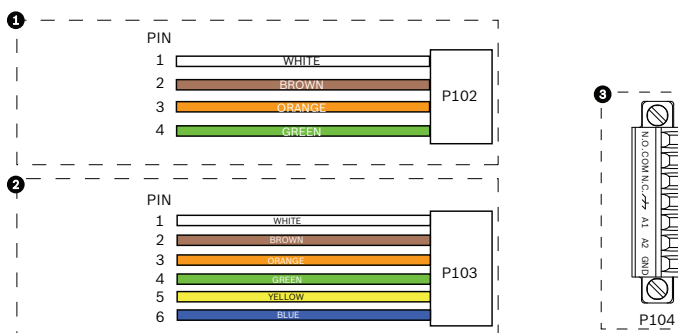

Figure 2.7 Alarm and Relay Connector Plugs
- To connect supervised alarms and relays, attach the appropriate wires to their terminals on the P104 connector on the Pipe Interface Board (see *Figure 2.7*, above). In addition, refer to *Section 4 Alarms and Relay Connections*, page 45 for more details on wiring alarms and relays.